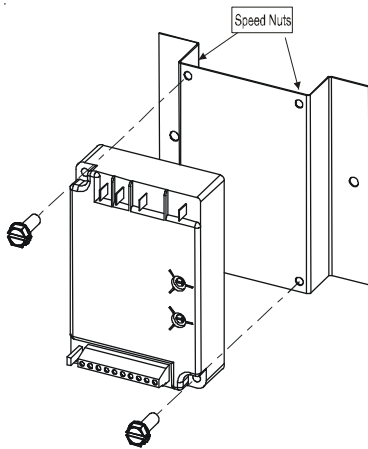

Figure 1A
3. Using the screws and speed clips provided, secure the control to the mounting bracket. (see Figure 1A). Secure the new assembly on the condenser evaporator partition panel in the blower section of the unit with two sheet metal screws.